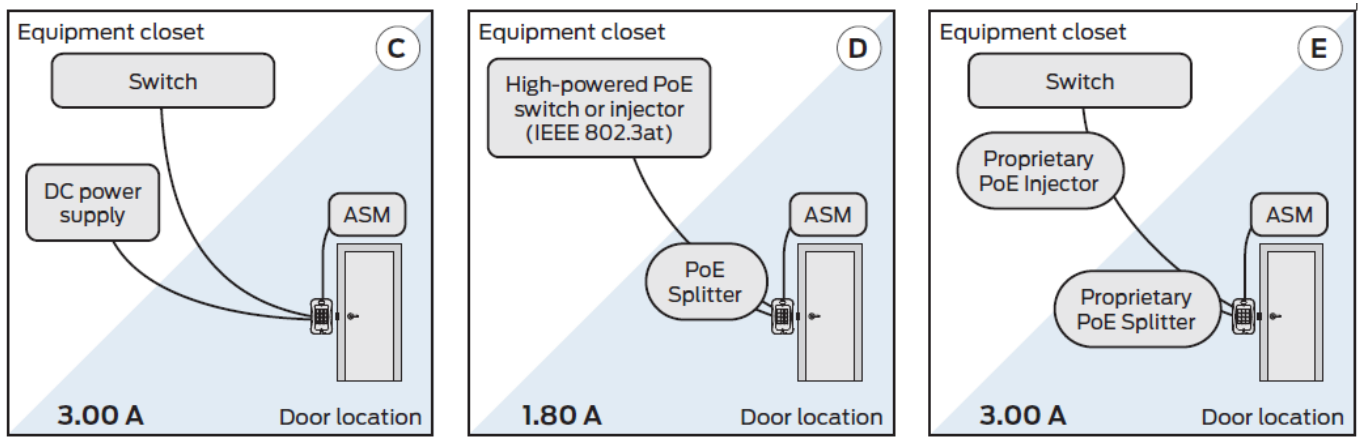

Figure 4.1: Power options
- The different options require different configurations of the supporting equipment and/or building wiring. Table 4.2: Power option configurations and Figure 4.1: Power options describes some of these power options.